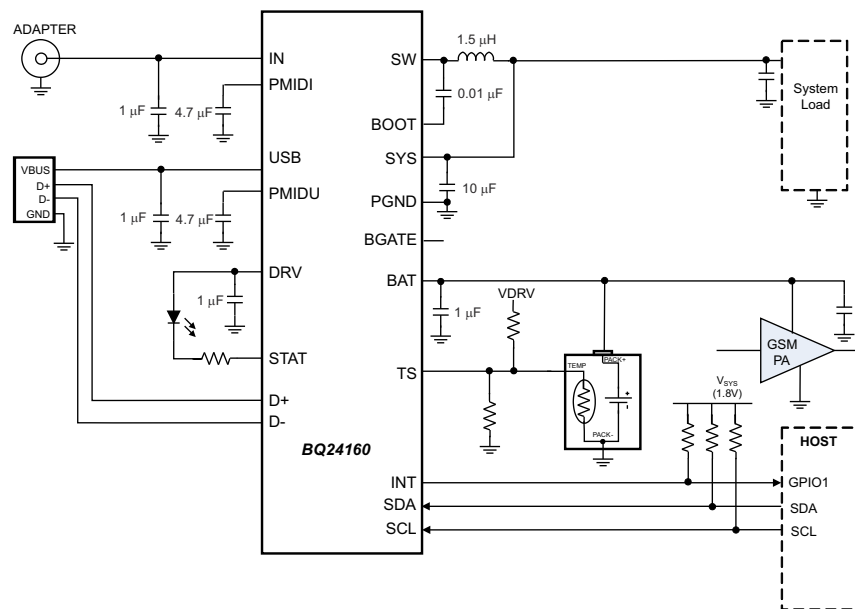
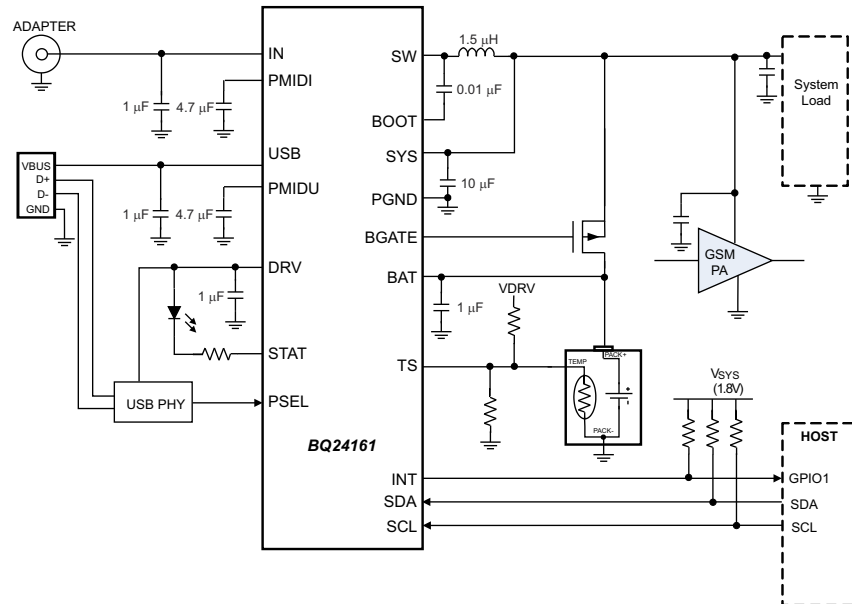

图 9-1. BQ24160, Shown with no External Discharge FET, PA Connected to Battery
图 9-2. BQ24161, Shown with External Discharge FET, PA Connected to System for GSM Call Support with a Deeply Discharged or No Battery
A typical application circuit using the BQ24160 with a smartphone's GSM power amplifier (PA) powered directly from the battery is shown in 图 9-1. A typical application circuit using the BQ24161 with a smartphone's GSM PA powered from the SYS rail, to allow for calls even with a deeply discharged battery, is shown in 图 9-2. Each circuit shows the minimum capacitance requirements for each pin and typical recommended inductance value of 1.5 μ H. The TS resistor divider for configuring the TS function for the battery's specific thermistor can be computed from equations 方程式 1 and 方程式 2. The resistor on STAT is sized per the LED current requirements. All other configuration settings for VINDPM, input current limit, charge current and charge voltage are made in EEPROM registers using I²C commands. Options for sizing the inductor outside the 1.5 μ H recommended value and additional SYS pin capacitance are explained in the next section.